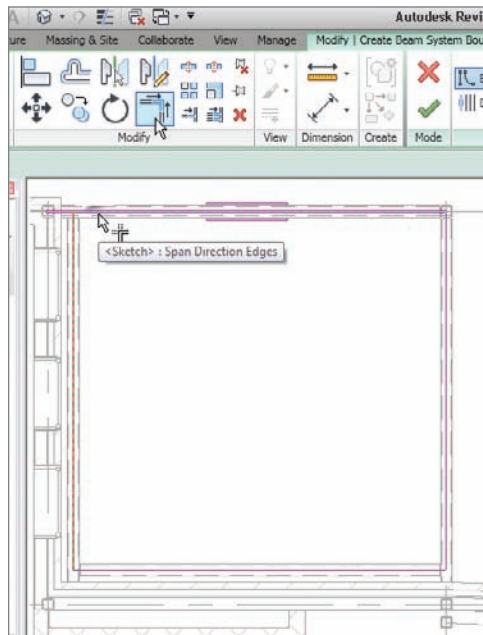

FIGURE 8.41 Cleaning up the corners of the sketch by using the Trim command
4. On the Modify panel, click the Trim/Extend Single Element button, as shown in Figure 8.41.
5. Trim the overlapping corners of the magenta sketch lines. See Figure 8.41.